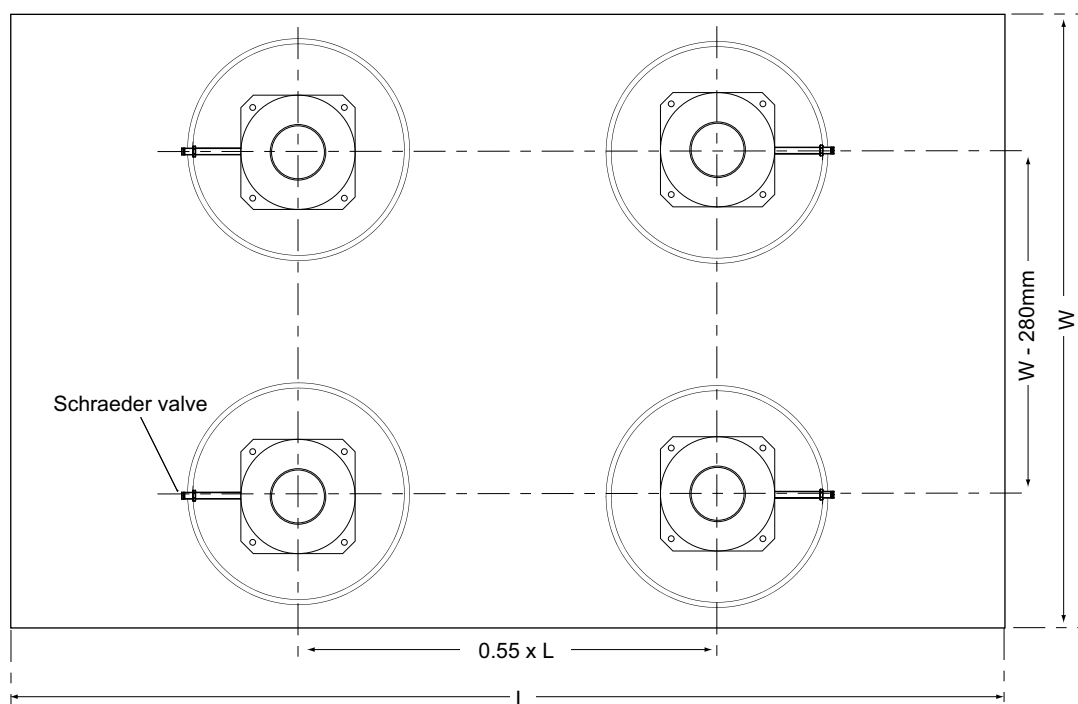

Fig. 3.1 Isolator positions
- 1) Position the isolators in approximately the correct position for the table – see Fig. 3.1 for dimensions. Note the position of the Schraeder valves and orientate the isolators as shown.